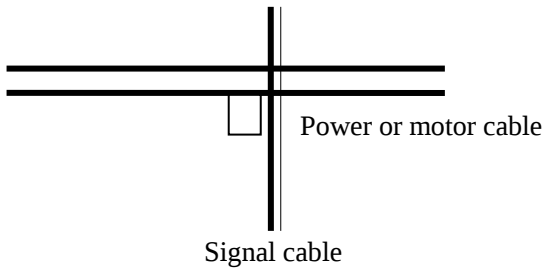

Fig. 2-11 Wiring requirement of system
- (3) Control signal cables should be shield and the shield layer should be connected with inveter's PE terminal, then ground the point near the inverter.
- (4) The grounding cable of inverter's PE terminal should be connected to ground directly. It can't connect to other devices' grounding cables.
- (5) Don't put the signal cables in parallel with the power cables (R, S, T or L, N with U, V, W) or bundle these cables together, at least 20~60 cm distance should be kept (related with power current). If the signal cables and power cables needed to be intersected, they should be vertical to each other, as shown in Fig 2-11.